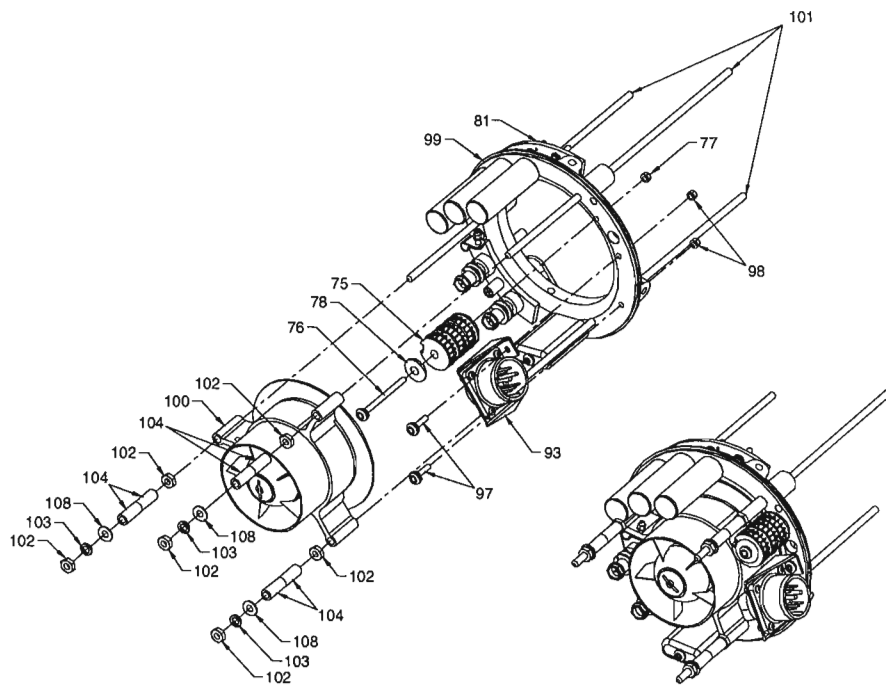

Figure 2. New Fan Motor Assembly Installation.
NOTE: Prior to assembly of new fan motor assembly, it is necessary to move the input connector (93) and reactor (75) aside. Desoldering the electrical connections is not required. Refer to Figure 2.
- (1) Remove two screws (97) and two nuts (98) securing input connector (93) to motor ring (99) and set input connector (93) aside.
- (2) Remove screw (76), washer (78) and nut (77) securing reactor (75) to motor ring (99) and set reactor (75) aside.